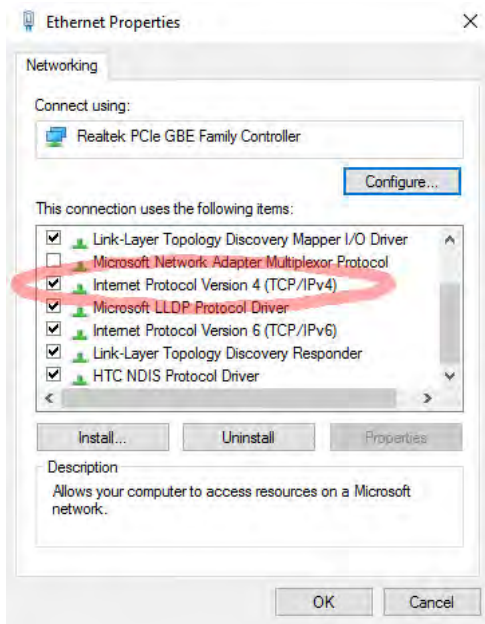

Figure 4-4 - Ethernet Properties window. Choose the IPv4 row.
6. In the contextual menu that appears when you right click on Ethernet choose **Properties**. The Ethernet Properties window will pop up as shown in Figure 4-4.